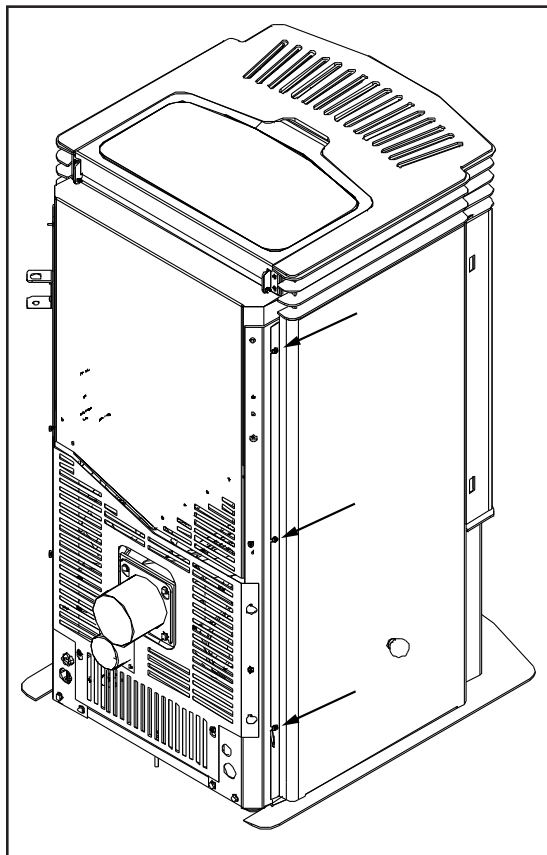
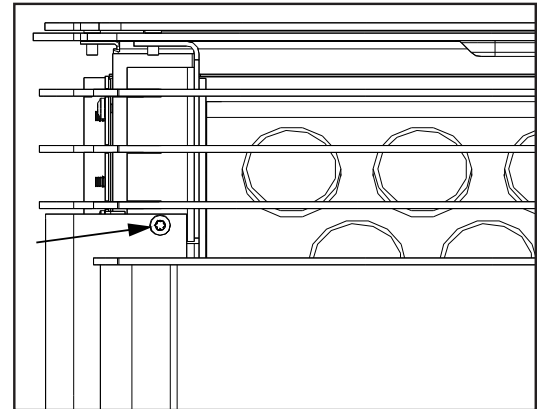
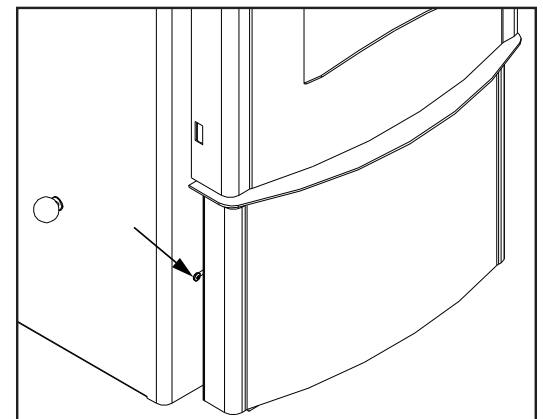
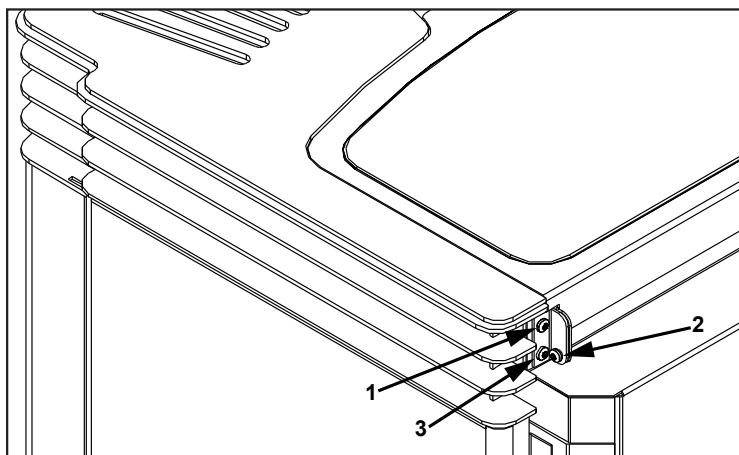

Figure 32: Screws at back of the cab side.
Figure 30: Screws above door top corner.
Figure 31: Screw behind ash box.
Figure 33: Installing Hopper Lid.
1. Remove the screws above the door on both sides (Figure 30).
2. Ensure the screws behind the ash box, one on each side (Figure 31) and the three (3) on each side at the back (Figure 32) are loosened.
3. Slide the three (3) slots at the back of the cab panels under the three (3) screws at the back.
1. Attach the hopper brackets to the back of the unit with a screw in each top holes of the brackets (#1 in Figure 33). Do not tighten these screws until all six (6) screws are in place.
2. Lay the hopper lid in place, slide the bushing into the bracket, and attach the lid to the brackets (#2 in Figure 33). The screw must go through the bushing in the bracket then into the hopper cover.
3. Install the screw in the bottom hole on both brackets (#3 in Figure 33).
4. Let the hopper lid lay flat on the stove top then tighten the four (4) bracket screws.
2. Remove both cab panels. Remove the screws above the door on both sides (Figure 30) and ensure the screws behind the ash box, one on each side (Figure 31) and the three (3) on each panels at the back (Figure 32) are loosened. Slide the front of the cab panels out then slide the back of the cab panels out from under the three (3) screws at the back (Figure 33). Note: The slider knob will need to be removed if installed.